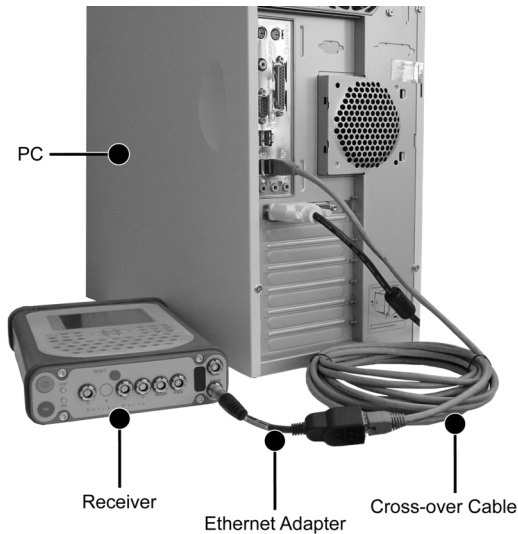
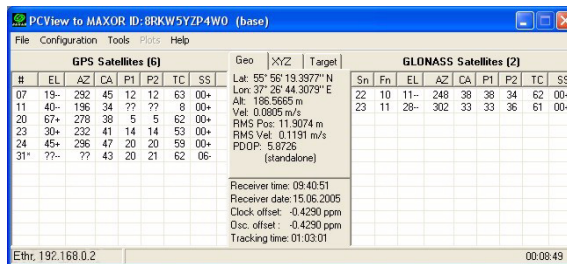

Figure 1-4. Direct Ethernet Connection – Hardware Setup
Figure 1-6. PCView Main Window – Ethernet Connection Established
- Insert the corresponding end (having seven pins) of the Ethernet adapter into the ETHR port of the receiver. Connect the other end of this adapter with the Ethernet crossover cable (either of its ends can be used). Plug the second end of the crossover cable into the Ethernet jack on the computer's back (Figure 1-4).
After establishing connection, you will see the current connection type (Ethr) and the receiver's IP address in the bottom left corner of the PCView's main window (Figure 1-6).
10. Click **Connect** (see Figure 1-4 on page 1-14). After establishing the connection, you will see the current connection type (Ethr) and the receiver's IP address in the bottom left corner of the PCView's main window (see Figure 1-6 on page 1-15). From this moment on, you may interact with the receiver in a *normal* way (i.e., record files into the receiver's memory and onto the computer's drives, send commands into the receiver, and so on) plus some network abilities (i.e., transfer files from the receiver over a TCP/IP network using FTP, connect up to 5 remote telnet-like terminals to the receiver).